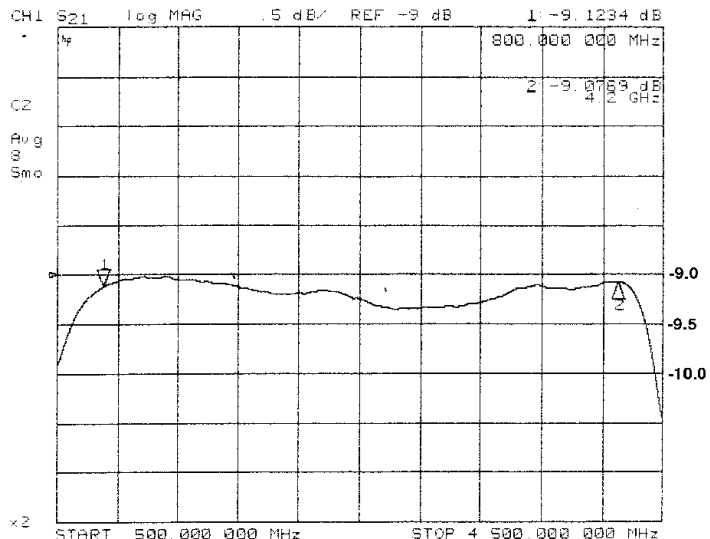

Figure 4-7. Typical Eight-Way Combiner Insertion Loss
- A typical Eight-Way Combiner Insertion Loss and Combined Port Return Loss is shown in Figure 4-7. The unused port must be terminated when checking the Insertion Loss.